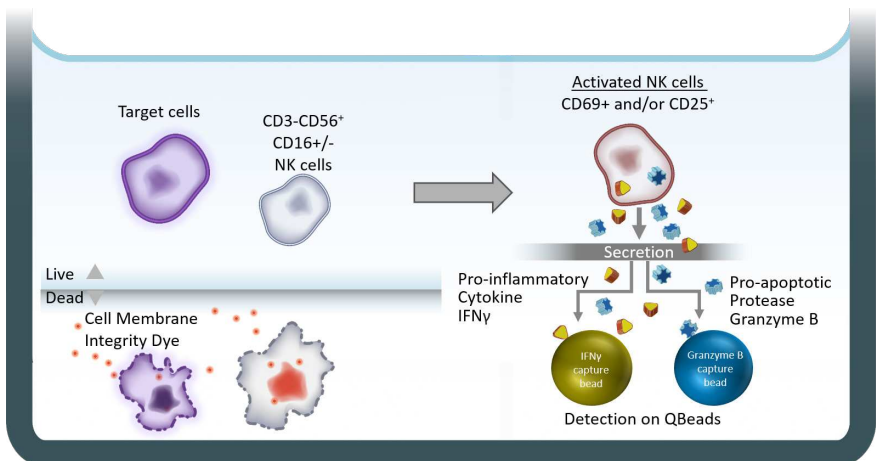

Figure 1. Simultaneous endpoint measurement in a single well.
- Analysis of NK cell phenotypes, and functions at different stages in a single, high content assay including activation markers (CD69 and CD25), cell membrane integrity, cell count, secreted pro-inflammatory cytokine Interferon gamma (IFN γ), and pro-apoptotic protease Granzyme B (see **Figure 1** for more detail).